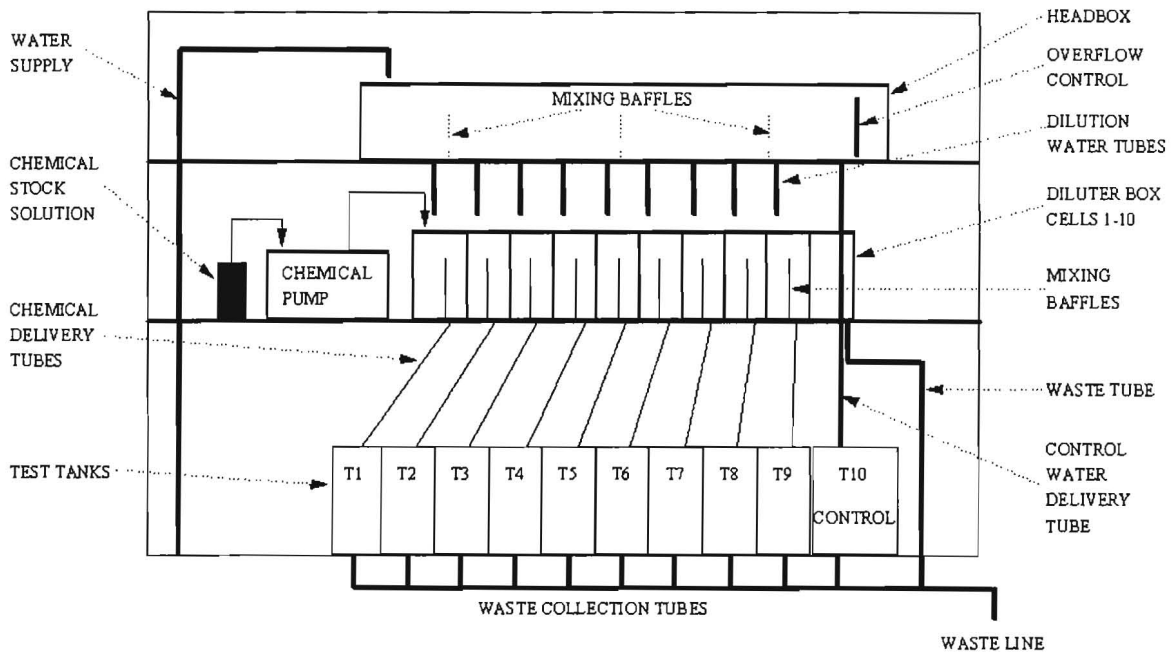

Figure 1. Diagram of Continuous Flow Diluter
2. Adjust water flow until a slight overflow in the headbox is achieved (Figure 1).
- a. Measure the volume of water entering the cell where the chemical stock solution will enter the diluter box (Cell 1) for 1 minute (Figure 1). Repeat four times and calculate the average volume in L/min. This volume will be used to determine the chemical stock solution to be prepared to achieve the highest concentration for the system. Record this volume in the study log.